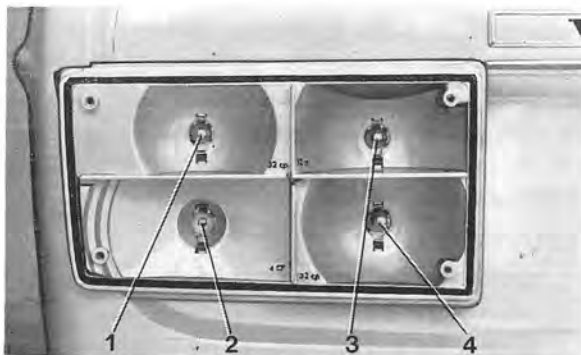

Fig. 3-79. Bulb location
2. Replace the bulb, see Fig. 3-79.